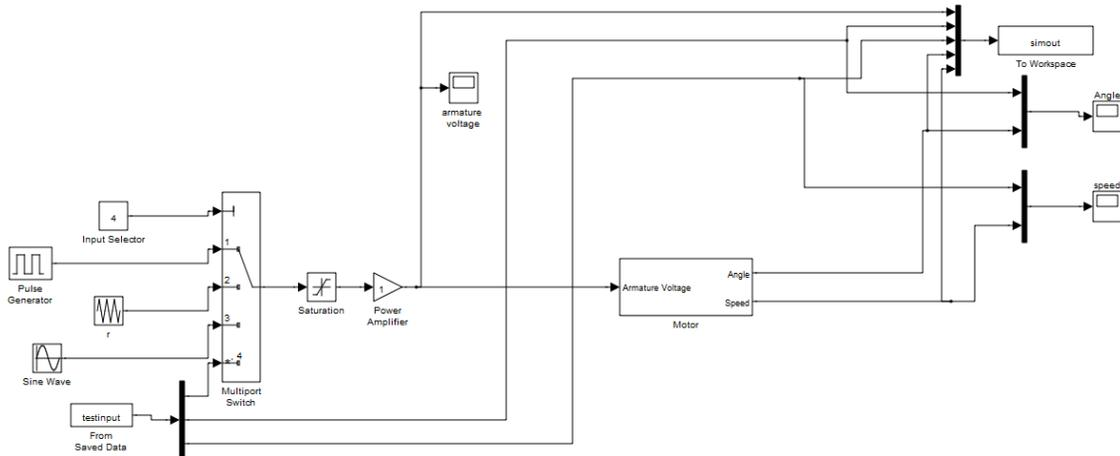

Figure 14 Simulink Configuration for Model vs. Data Comparisons.
2. The appropriate SIMULINK model configuration is shown in Figure 14. In order to be able to switch to using your saved data, you will have to set your Simulation Mode to 'normal' mode instead of 'external' mode. Test one of your data files to make sure this is working. You are now able to use your Simulink model as a decent approximation of the system dynamics for the purpose of controller design and simulation.